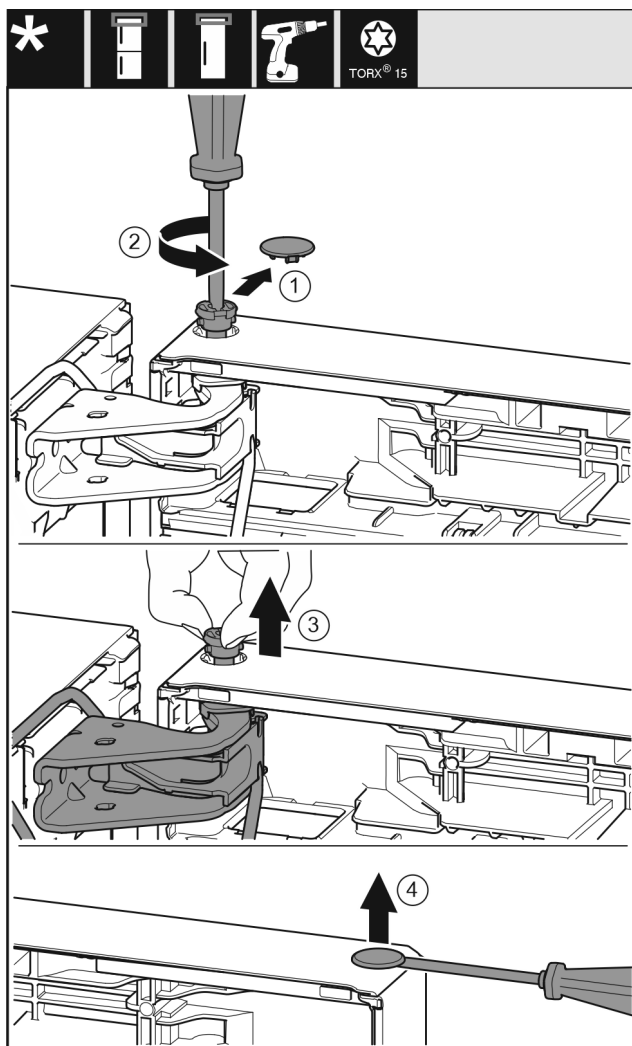

Fig. 10
- Carefully remove the protective cover. Fig. 10 (1)
- Undo the bolt a little with a T15 screwdriver. Fig. 10 (2)
- Hold the door and remove the bolts with your fingers. Fig. 10 (3)
- Carefully lift the plugs out of the door bearing bush with a slotted screwdriver and pull them out. Fig. 10 (4)